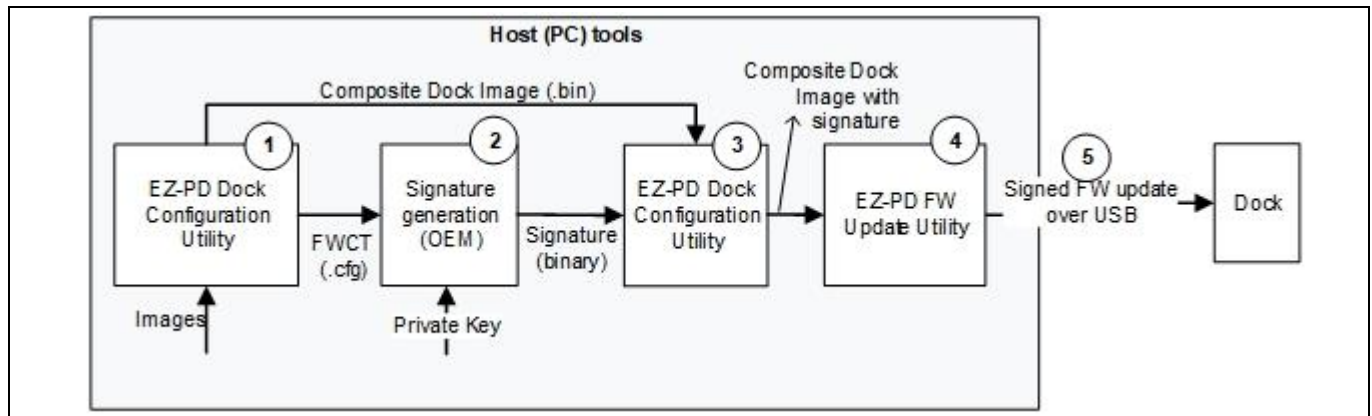

Figure 18 Steps from composite binary creation to Dock phase-1 update
- a) Downloading the composite binary using Infineon's *EZPD.FwUpdateUtility* from the host PC to dock over the EZ-PD™ PMG1-S3's USB 2.0 vendor interface, as shown in Figure 18. On the host PC, the *EZPD.FWUpdateUtility* uses the WinUSB Driver to send data over USB.